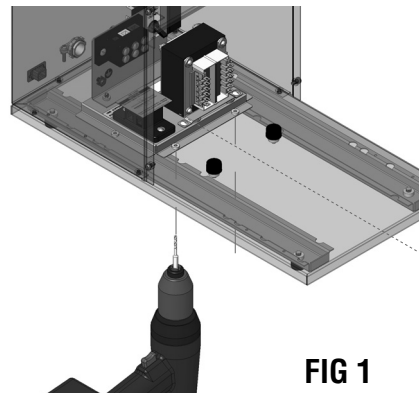
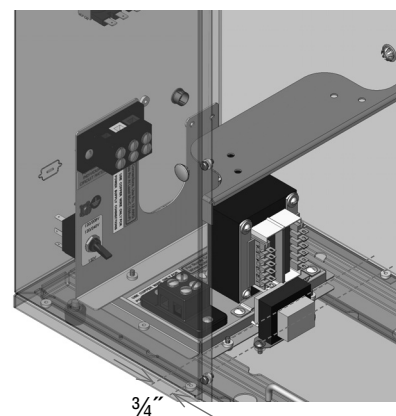

FIG 1
FIG 2
2. Remove the front panel by loosening the (6) screws. Save screws.
6. Use the drill hole pattern to drill (2) holes in the base. FIG 1 ICB, FIG 2 ITCB-DV HV